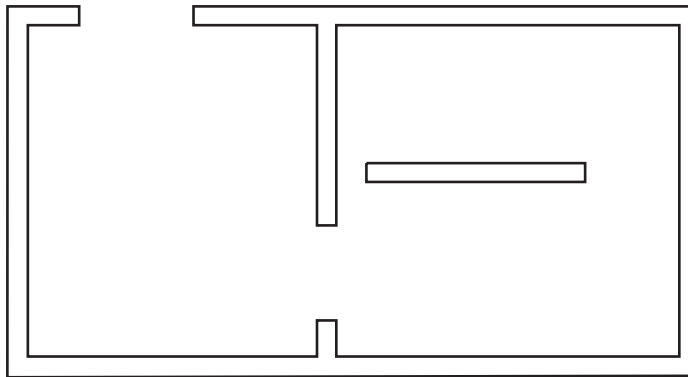

Fig. 18-5
3. Create a new multiline, as shown in Fig. 18-5.